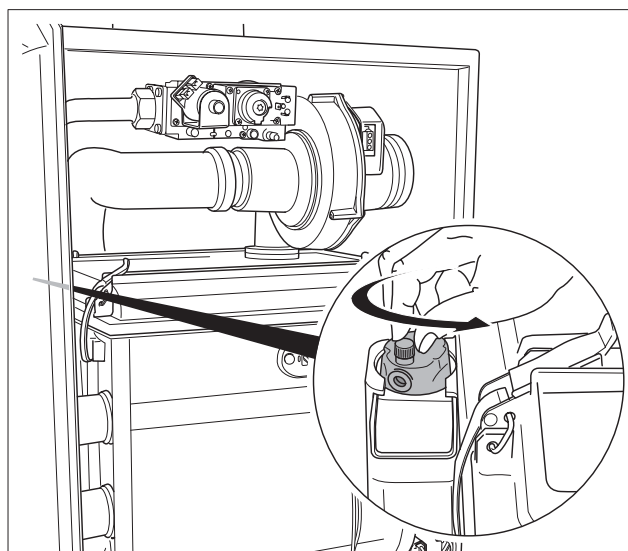

fig. 76 Opening the automatic air purging unit
The boiler has an automatic air vent (fig. 76) to purge the boiler.
- Turn the cap of the automatic air vent (fig. 76) through one rotation to loosen it.